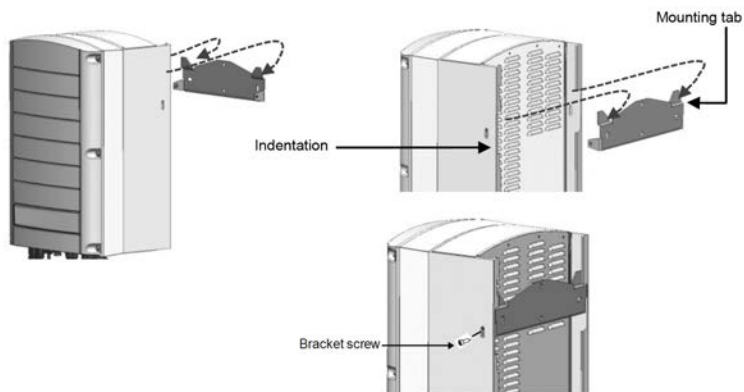

Figure 11: Hanging the inverter on the bracket
- Ensure that the flat edge of the bracket is at the bottom, as in *Figure 11*.
9. Insert the two supplied screws through the outer heat sink fin on both sides of the inverter and into the bracket (see *Figure 11*). Tighten the screws with a torque of 4.0 N*m / 2.9 lb.*ft.